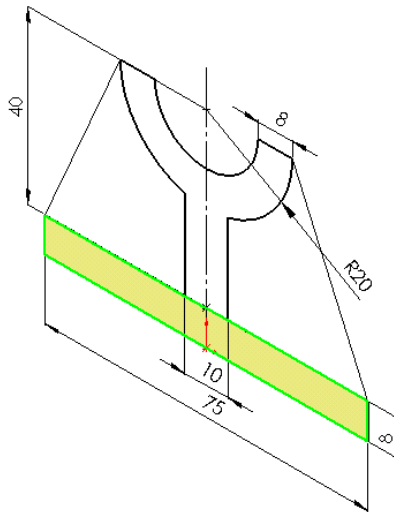

Figure 5-71 Lower rectangle selected as a contour
- b. Invoke the extrude option and extrude the selected contour, refer to Figures 5-71 and 5-72.
4. Now, select the lower rectangle. The selected area is displayed in yellow. Right-click or choose **OK** from the contour selection confirmation corner. You can also right-click immediately after selecting the contour to confirm the selection and choose the **End Select Contours** option from the shortcut menu. Figure 5-71 shows the lower rectangle selected using the contour selection tool.